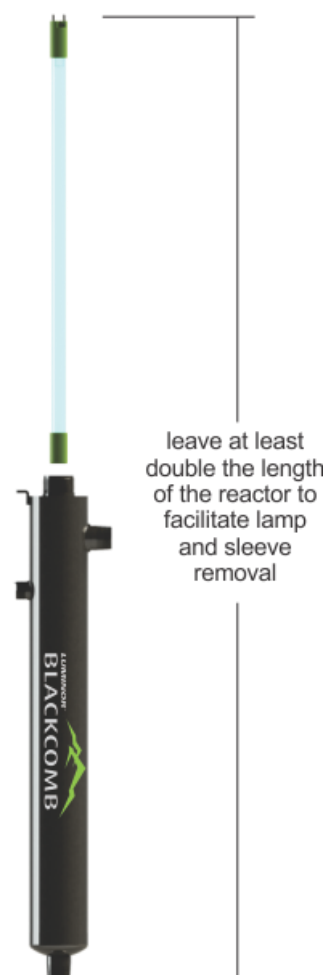

Figure 1. Lamp Removal Spacing
Step 3: To facilitate lamp removal, ensure there is enough space at the lamp connector end to safely remove the UV lamp and/or quartz sleeve (a space equal to the length of the unit will suffice) (see Figure 1.).